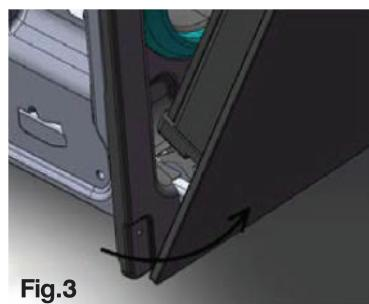
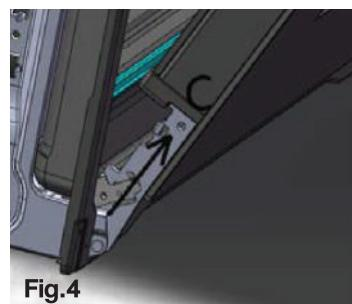

Fig.3
Fig.4
- Hold the door as shown in fig.3
- Gently close the door(fig.3)until left and right hinge levers A are hooked to part B of the door(fig.4).
- withdraw the hinge hooks from their location following arrow C(fig.4);